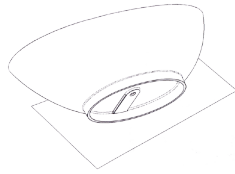

figure 2
3. Determine the location of the drain pipe on the floor by taking measurements of the drain and waste location underneath the unit (figure 2).